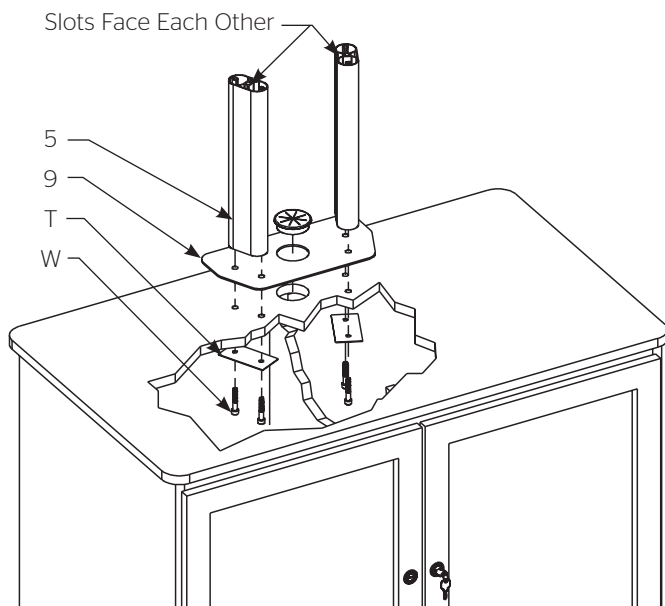

Figure 2
3. Install Base Plate and Aluminum Columns onto top of cart. See Figure 2. Position the Base Plate and Columns with slots facing toward each other as shown. Use Reinforcing Plates where indicated. **Leave fasteners loose.** The proper allen wrench can be found with the monitor mounting fasteners.